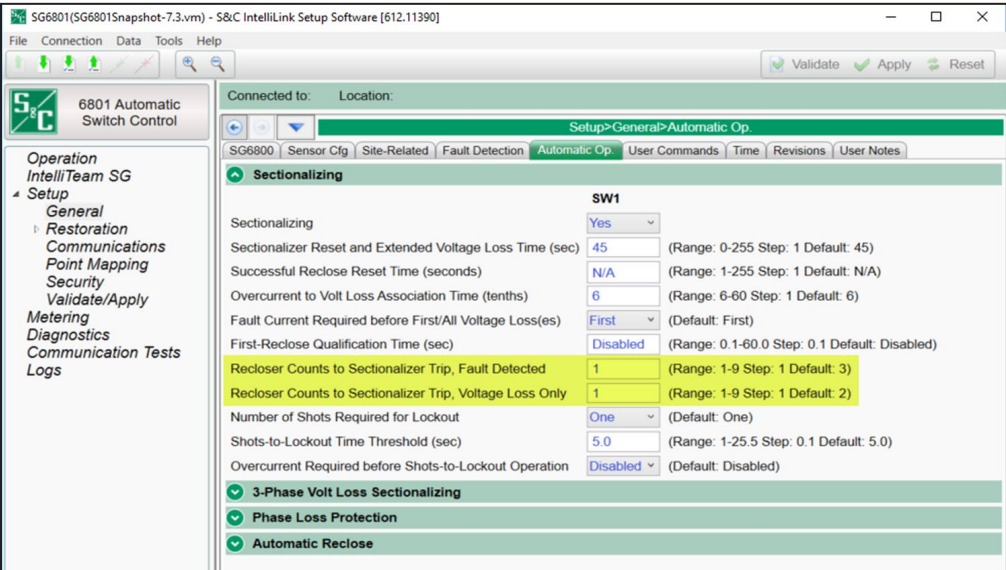

Figure 28. The Recloser Counts to Trip on Fault or Voltage Loss Only setpoints on the *Setup>General>Automatic Operation* screen.
- Go to the *Setup>General>Automatic Op.* screen and set the **Recloser Counts to Sectionalizer Trip, Fault Detected and Recloser Counts to Sectionalizer Trip**, and **Voltage Loss Only** setpoints to “1.” This is required for the IntelliTeam software to determine fault location in the event the distributed generation device is contributing fault current to the system. See Figure 28.